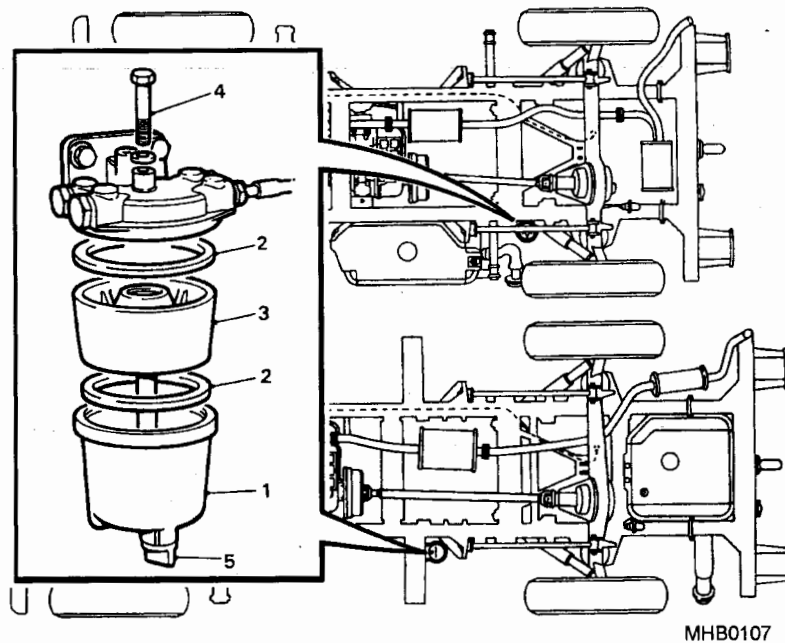

Fig 20 To clean the element
24.1 Support the bowl (Fig 20 (1)) and unscrew the bolt (4) on top of the unit and remove.